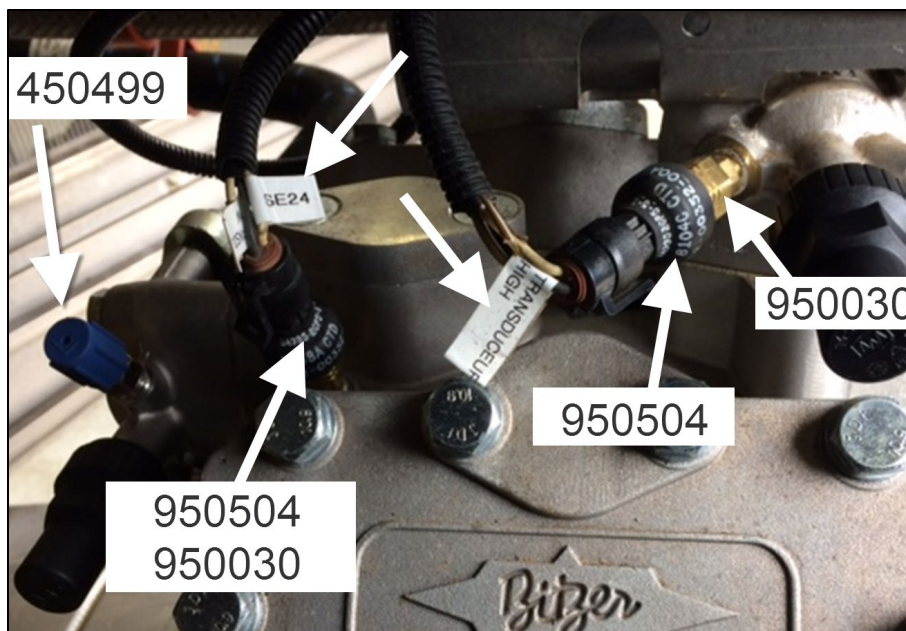

FIGURE 41
73. Install all components (5) shown in Figure 41 on the new compressor.
74. Connect existing connector Se23 (High) and existing connector Se24 (Low) to the transducers as shown in Figure 41.